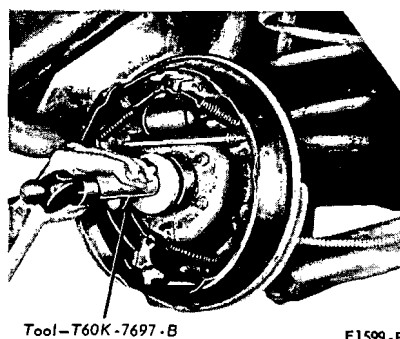

FIG. 8 Installation of Axle Shaft Bearing
1. Lightly coat the wheel bearing rollers with axle lubricant. Install the bearings in the axle housing with the tool shown in Fig. 8. The bearing should seat firmly against the shoulder.